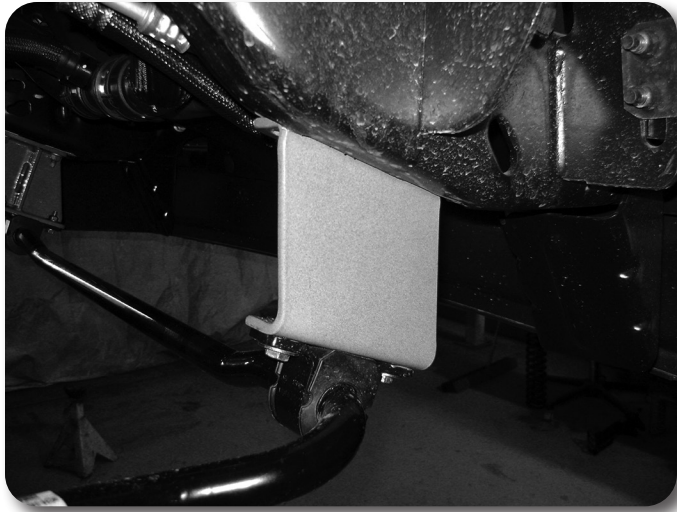

Figure 13
33. Locate the new sway bar drop brackets. Install the brackets on the frame with the original sway bar mount hardware. When installed the brackets should offset toward the front of the vehicle and the open face point to the inside. **Figure 13** Leave hardware loose.